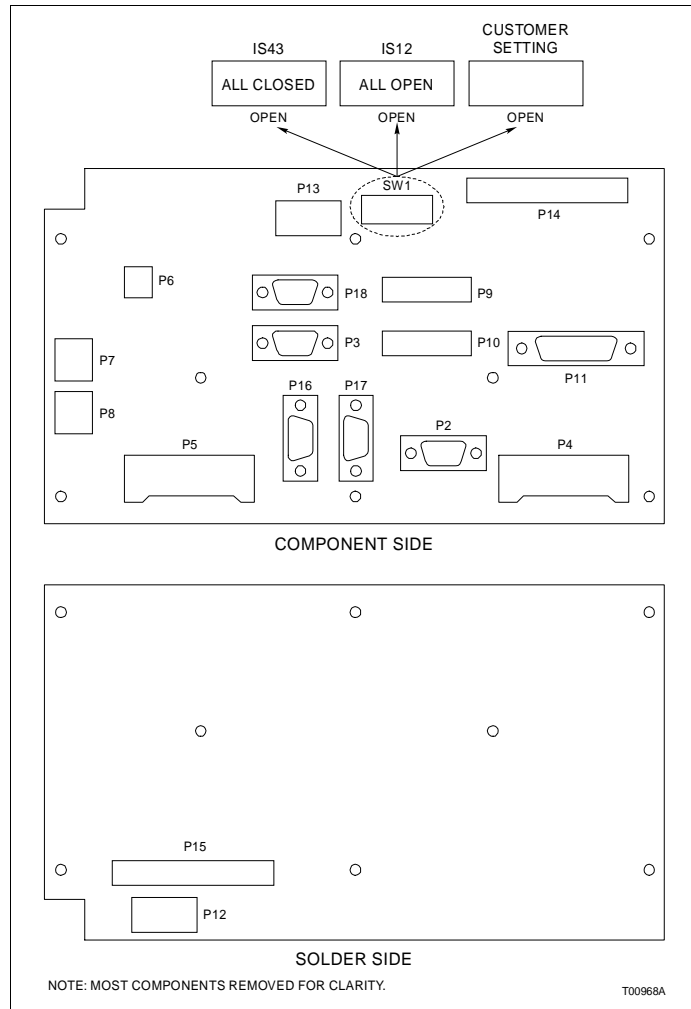

Figure PR31-2. Beam Distribution Board
- 5. Connect the beam/touchscreen cable that comes from P3 of the beam distribution board to P3 on the beam distribution board in the adjacent beam (Fig PR31-2).